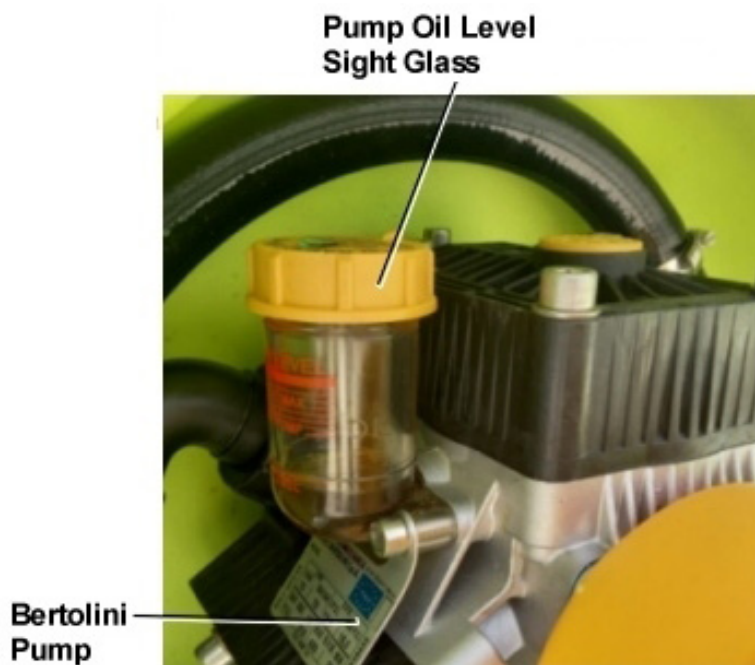

Figure 11 – Bertolini Pump
4	Check pump oil level, top up as required (refer to Figure 11)
- Refer to the pump manual (downloaded via link on supplied data sheet), drain and replace the pump oil in accordance with the manufacturer's recommendations (refer to Figure 11).